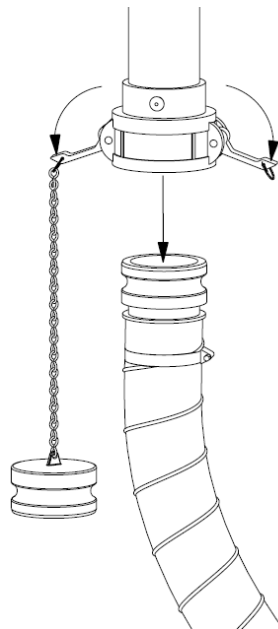

Figure 6-22: Removal of intake line
5. Open the locking arms of the drop line coupler and remove the intake line, reference **Figure 6-22**.